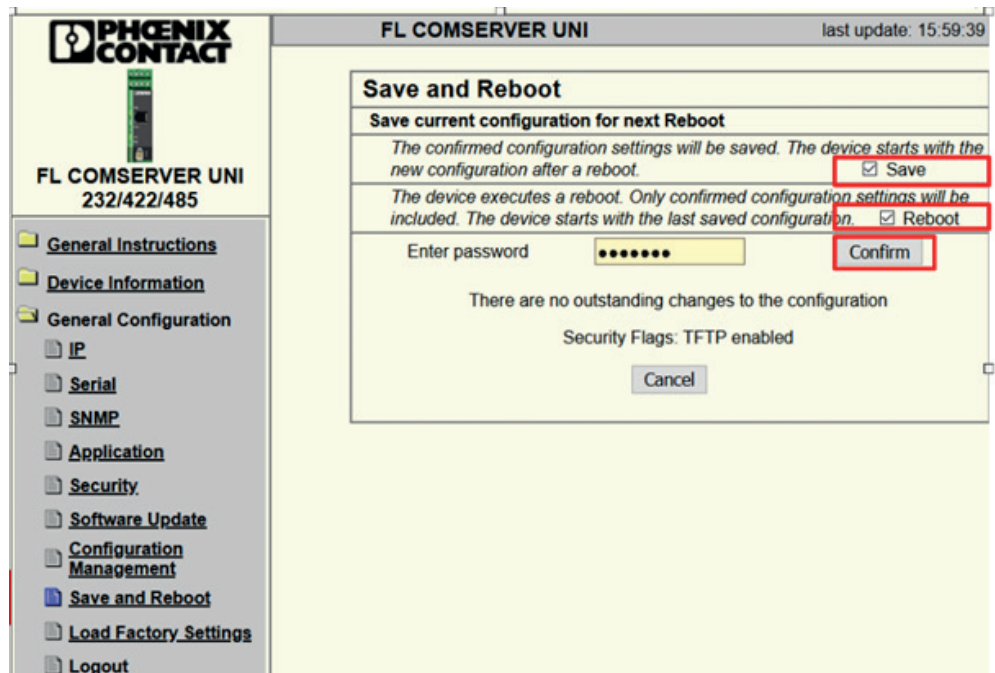

Fig. 8: Save and Reboot
4. Navigate to “General Configuration” - “Application” (1).
5. Under “Protocol settings for TCP” (2), change the Operation Mode to TCP.
6. Confirm with “Confirm” (3).
+i The web interface is created dynamically depending on the Operation Mode. Therefore, it may be necessary to activate “Save” and “Reboot” (see Fig. 8) after changing the Operation Mode, so that the menu is displayed in (4).
7. After the restart, the corresponding operating mode “PC” for TCP is displayed in the lower field of the configuration (5).
The web interface is created dynamically depending on the Operation Mode. Therefore, it may be necessary to activate “Save” and “Reboot” (see Fig. 8) after changing the Operation Mode so that the menus are displayed.